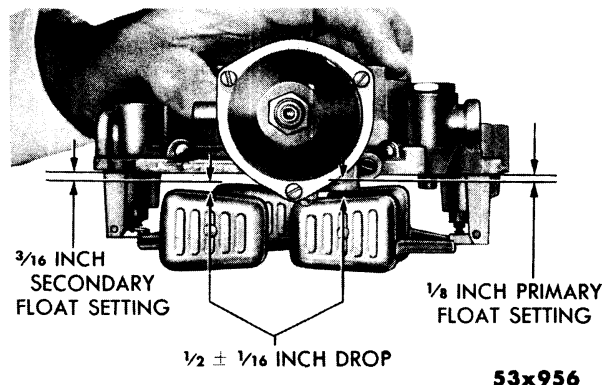

Fig. 46—Float Drop Adjustment
- (1) After performing the float level adjustment, hold the air horn assembly in an upright position and note the distance with which the floats drop, as shown in Figure 46. Both the primary and secondary floats should drop $\frac{1}{2}$ inch from gauge setting (plus or minus $\frac{1}{16}$ inch) when measured at center of float, as shown in Figure 46.